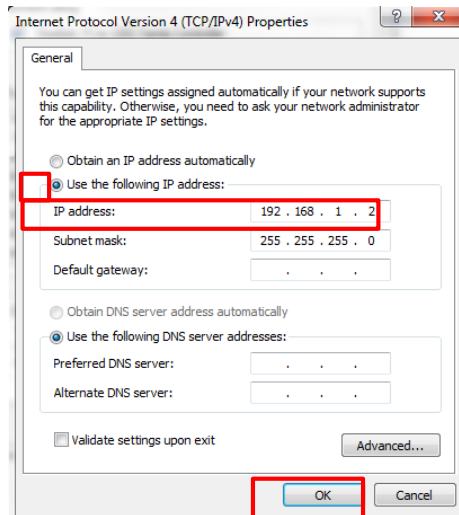

Figure 4-19: Enter IP Address
6. Select the radial button next to **Use the following IP address**, which will allow you to populate the IP address and Subnet mask fields. In the **IP address** enter **192.168.1.2**, and click **OK** (Note the Subnet mask should automatically populate to 255.255.255.0) as shown in Figure 4-19.